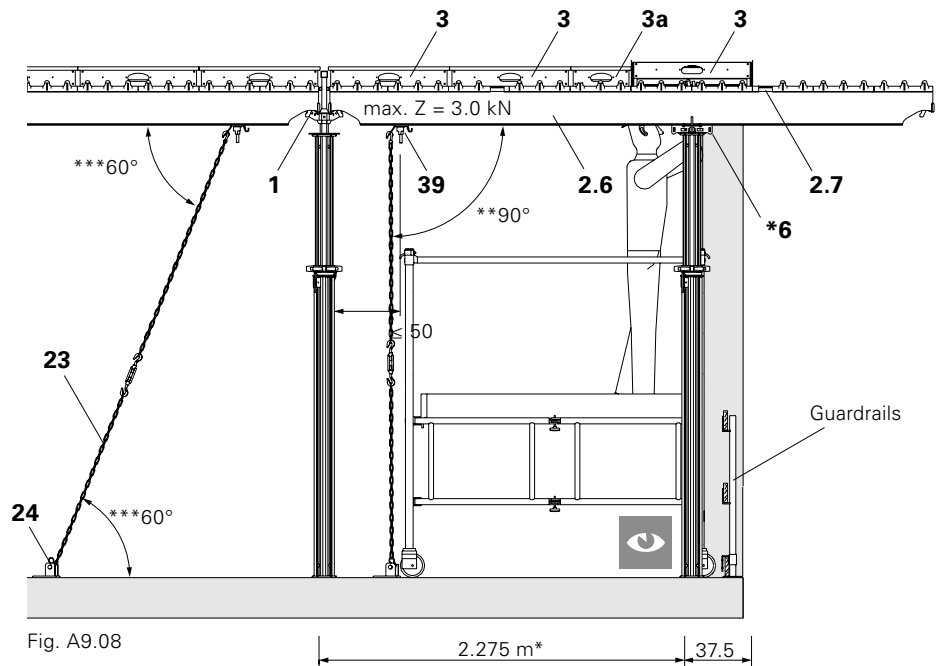

Fig. A9.08
1. Place prop with Drophead SFK (1) at slab edge and secure with tripod.
2. Connect Main Beam SLT 375 (2.6) and support by means of a second prop with Prophead SSK (6) after 2.275 m at the edge of the building. (Formed exclusively with prophead; position front prop at a distance of 2.25 m).
3. Mount Tension Sleeve SAO (39) in the main beam groove. Distance ≤ 50 cm from the non-cantilevered end.
4. Attach tension chain (23) with turnbuckle to the eye at the top, and anchor to the ground by means of a base plate (24). (Fig. A9.08)
5. Bay by bay immediately install 3 Panels 150 x 75 (3) and 1 Filler Panel 150 x 37.5 (3a) from below as far as the platform support (2.7) of the Main Beam SLT 375. For example, with the PERI Stripping Cart ASW 465.
- Are the props in line with the props of the corner table? (Fig. A9.08)